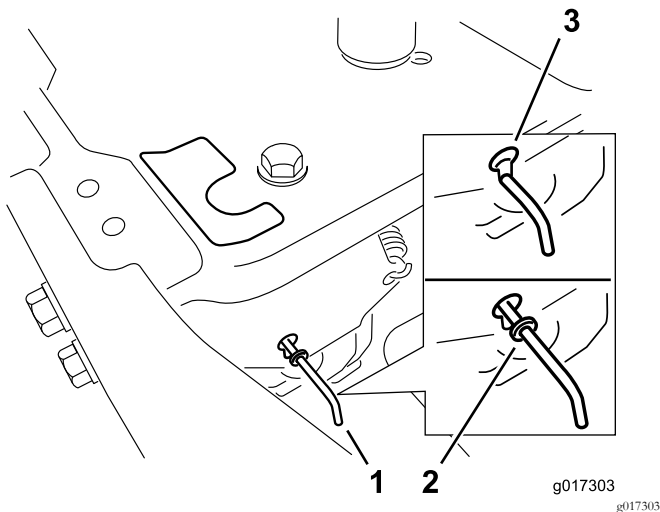

Figure 30
4. Move the bypass levers forward through the key hole and down to lock them in place (Figure 30).
Move the bypass levers rearward through the keyhole and down to lock them in place as shown in Figure 30.